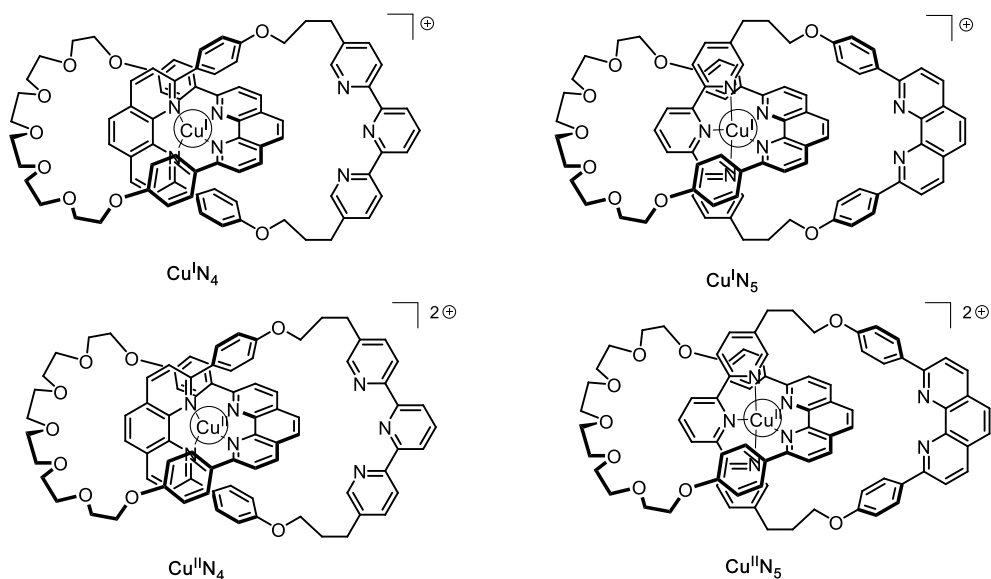

Fig. 2 – [2]catenane **L** states
11. **Fill** in the solid boxes with the designation of the involved complexes in Fig. 2 and **complete** the sequence to achieve electrochemical control of the system using the following notation for the dashed boxes:  (rotation); $+e^-$; $-e^-$.